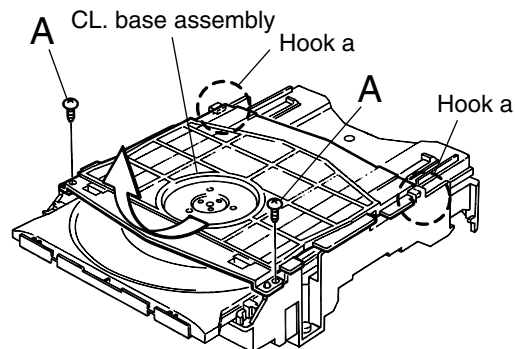

Fig. 1
■ Removing the CL. Base Assembly and Tray (Refer to Figs. 1 to 5.)